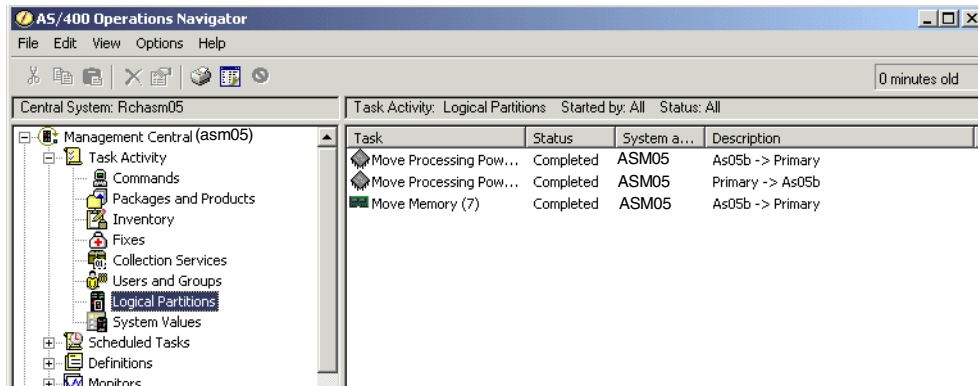
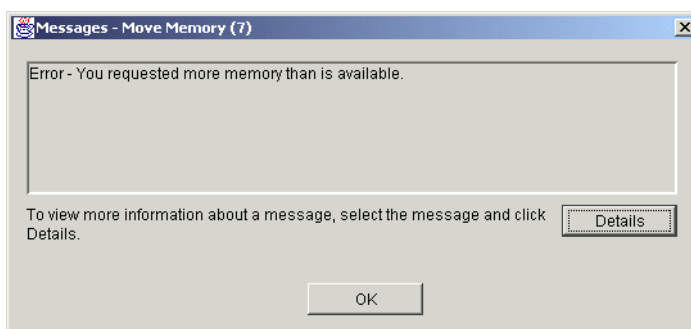

Figure 8-59 Management Central Task Activity
Figure 8-61 Messages - Move Memory
1. From Management Central, select **Task Activity-> Logical Partitions**. See Figure 8-59. In this example, all three tasks have a status of *completed*.
3. The memory move task shown in Figure 8-59 also shows a status of completed. If you click this task to verify, and then right-click and select **Status**, you receive the Move Memory error message as shown in Figure 8-61.